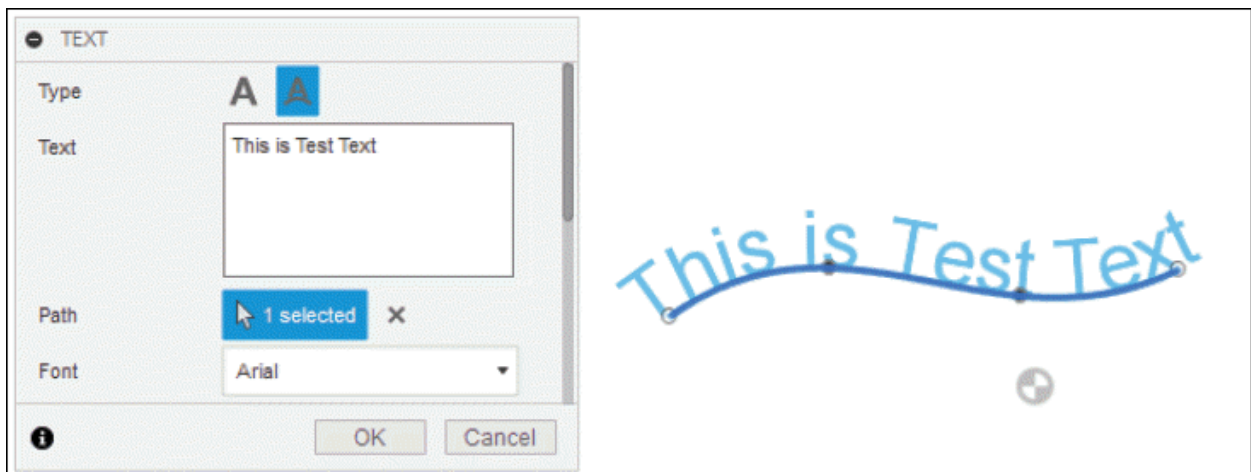

Figure-51. Preview of text created on selected path
- Click in the **Text** edit box and type desired text. Preview of text will be displayed in real-time; refer to Figure-51.